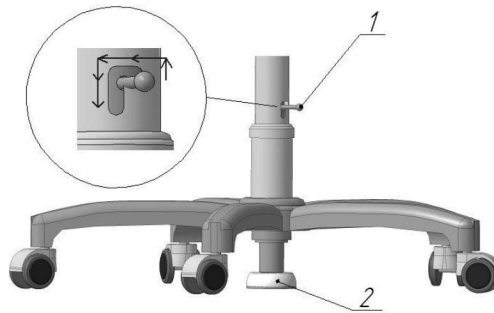

Figure 2.5 - Device for movement retention
The Unit in the working position is fixed with the help of a device for movement retention (Fig. 2.5)
To fix the Unit in working position, move the lever 1 along the path shown in Fig. 2.5 and lower the locking support 2 until it hits the floor. To move the Unit, raise the locking support by moving the lever in the reverse direction. The Unit should be moved by the handle (Fig. 1.1) located on the vertical pipe of the rack.
2.3.2.1 Fix the Unit in working position using the movement retention device (Fig. 2.5).